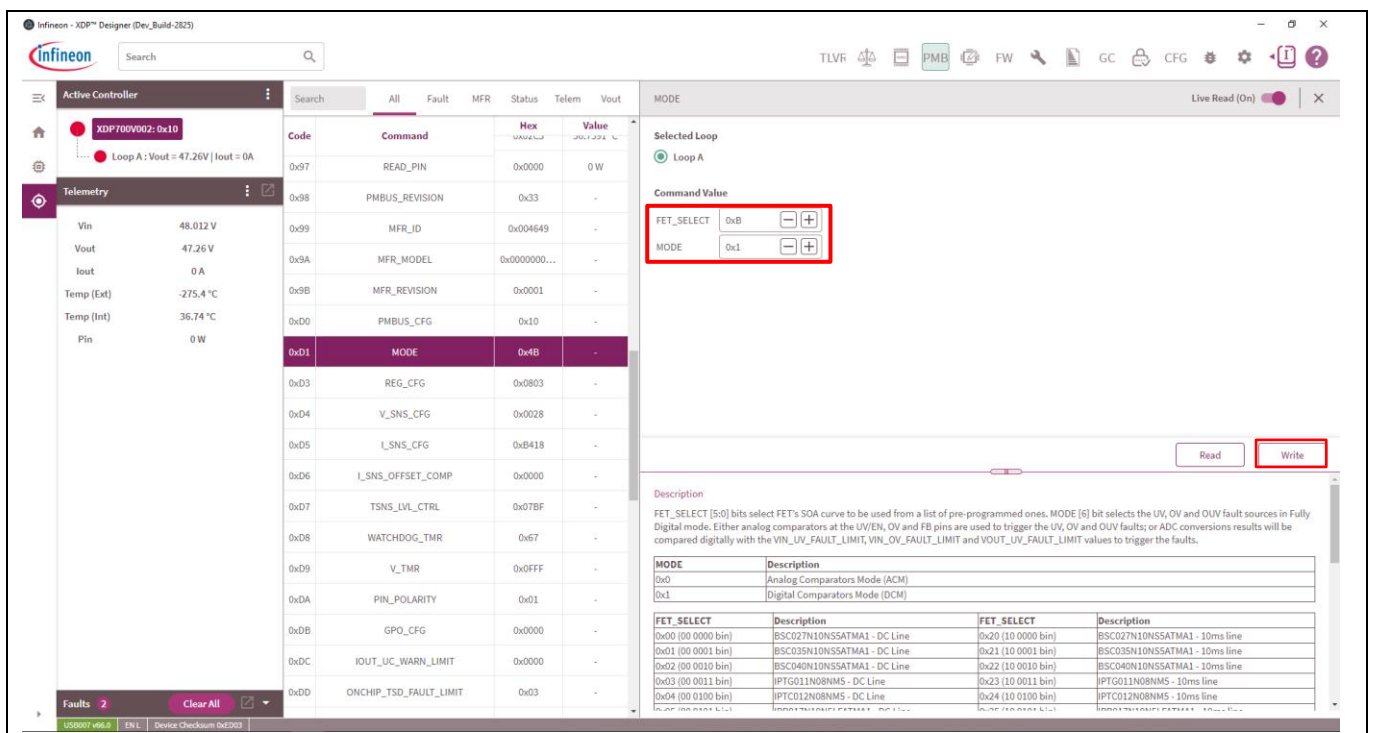

Figure 29 FET selection in FDM
2. Modify the FET_SELECT bit to 0xB, and then click **Write**. See Figure 29.